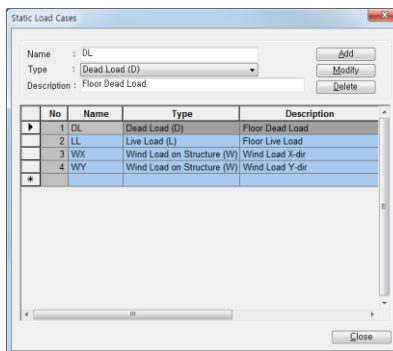

Figure 1.13 Definition of Load Cases
3. Enter “**DL**” in the **Name** field of the **Static Load Cases** dialog box (Fig.1.13).
4. Select “**Dead Load**” from the **Type** selection field. ②
7. Enter the remaining load cases in the **Static Load Cases** dialog box as shown in Fig.1.13.
② Click the Type field once and type in “D”, then Dead Load will be selected in Load Type. Similarly, Wind Load and Live Load can also be selected by typing in only the initials, i.e., “W” and “L”.